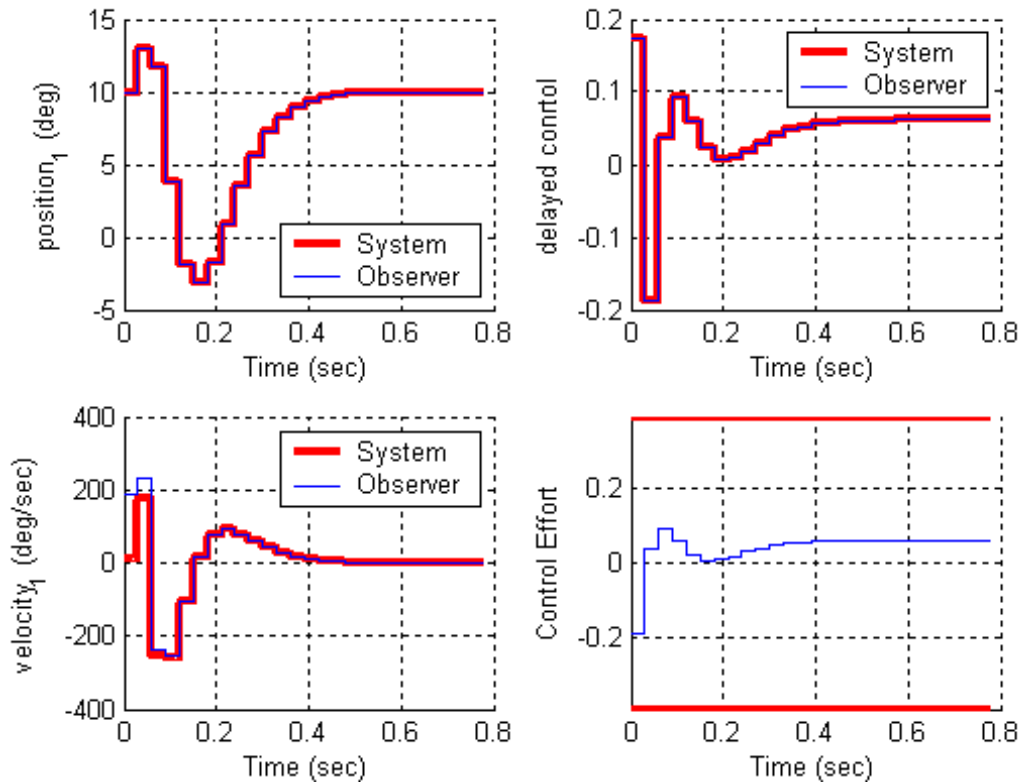

Figure 6. Results for problem 2d.
d) Now assume the same conditions as part **c**, but with a sampling interval of 0.03 seconds, For a 10 degree step input you should get the graph shown in Figure 6. Turn in your plot.